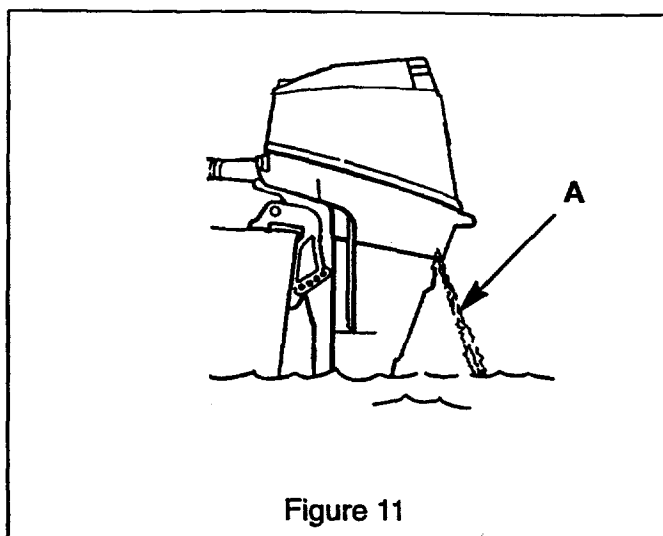

Figure 11
2. Check that a steady stream of water (A) is coming out of the water pump indicator hose when the motor is idling (Figure 11).